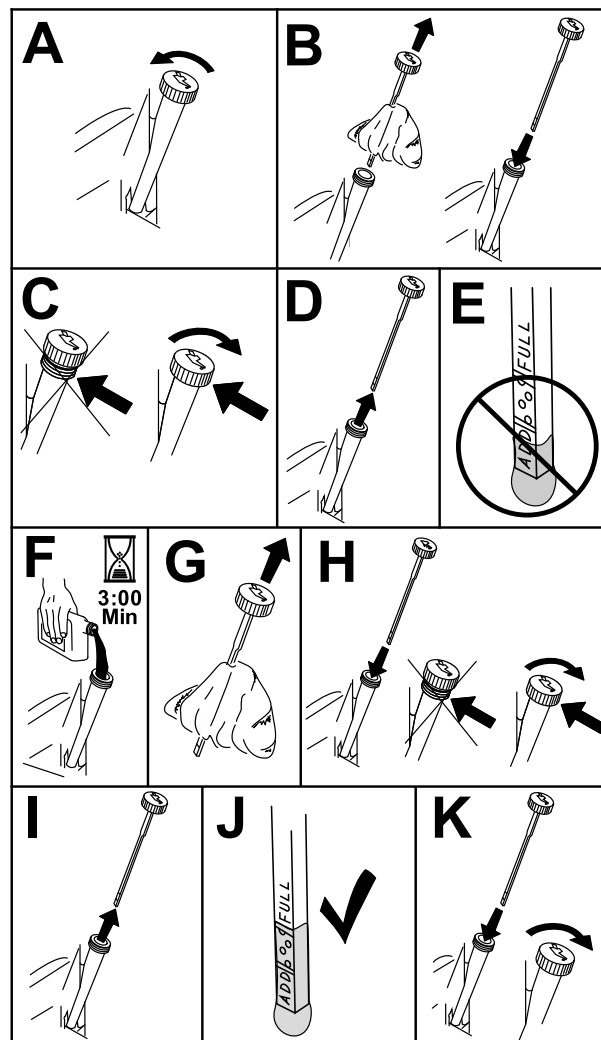

Figure 42
3. To keep dirt, grass clippings, etc., out of the engine, clean the area around the oil-fill cap and dipstick before removing it (Figure 42).